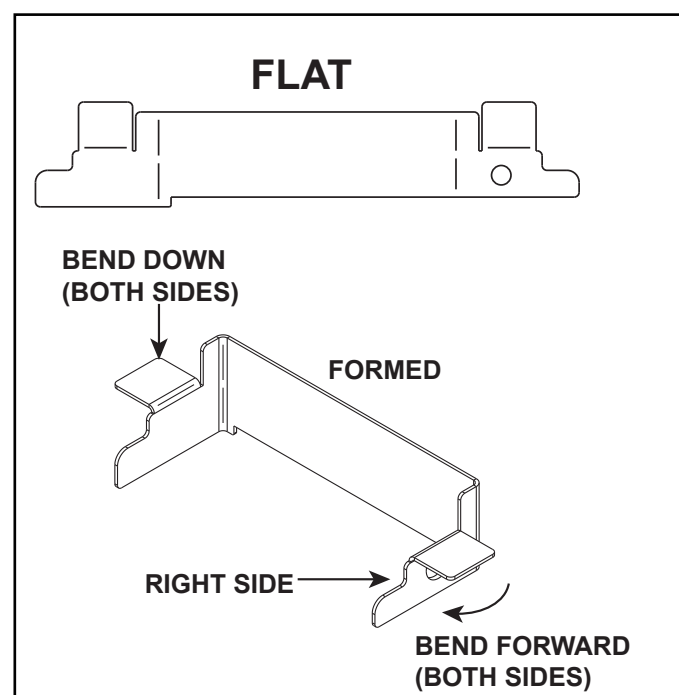

Figure 9.5 Pilot Shield - Flat and Formed
3. Position the replacement pilot shield so that the hole is on the right side as shown in Figure 9.5.
4. Bend the left and right hand bends forward 90 degrees as shown in Figure 9.5.